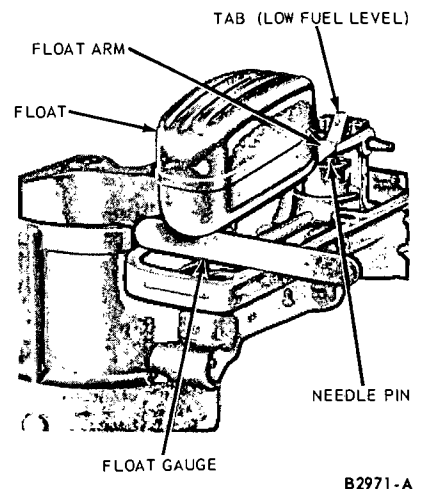

FIG. 6—Fuel Level Float Adjustment — Carter YF Type 1-V
2. Fabricate a float level gauge (Fig. 6) to the specified float level dimension.
3. Invert the air horn assembly, and check the clearance from the top of the float to the bottom of the air horn with the float level gauge (Fig. 6). Hold the air horn at eye level when gauging the float level. The float arm (lever) should be resting on the needle pin. Bend the float arm as necessary to adjust the float level (clearance). **Do not bend the tab at the end of the float arm, it prevents the float from striking the bottom of the fuel bowl when empty.**